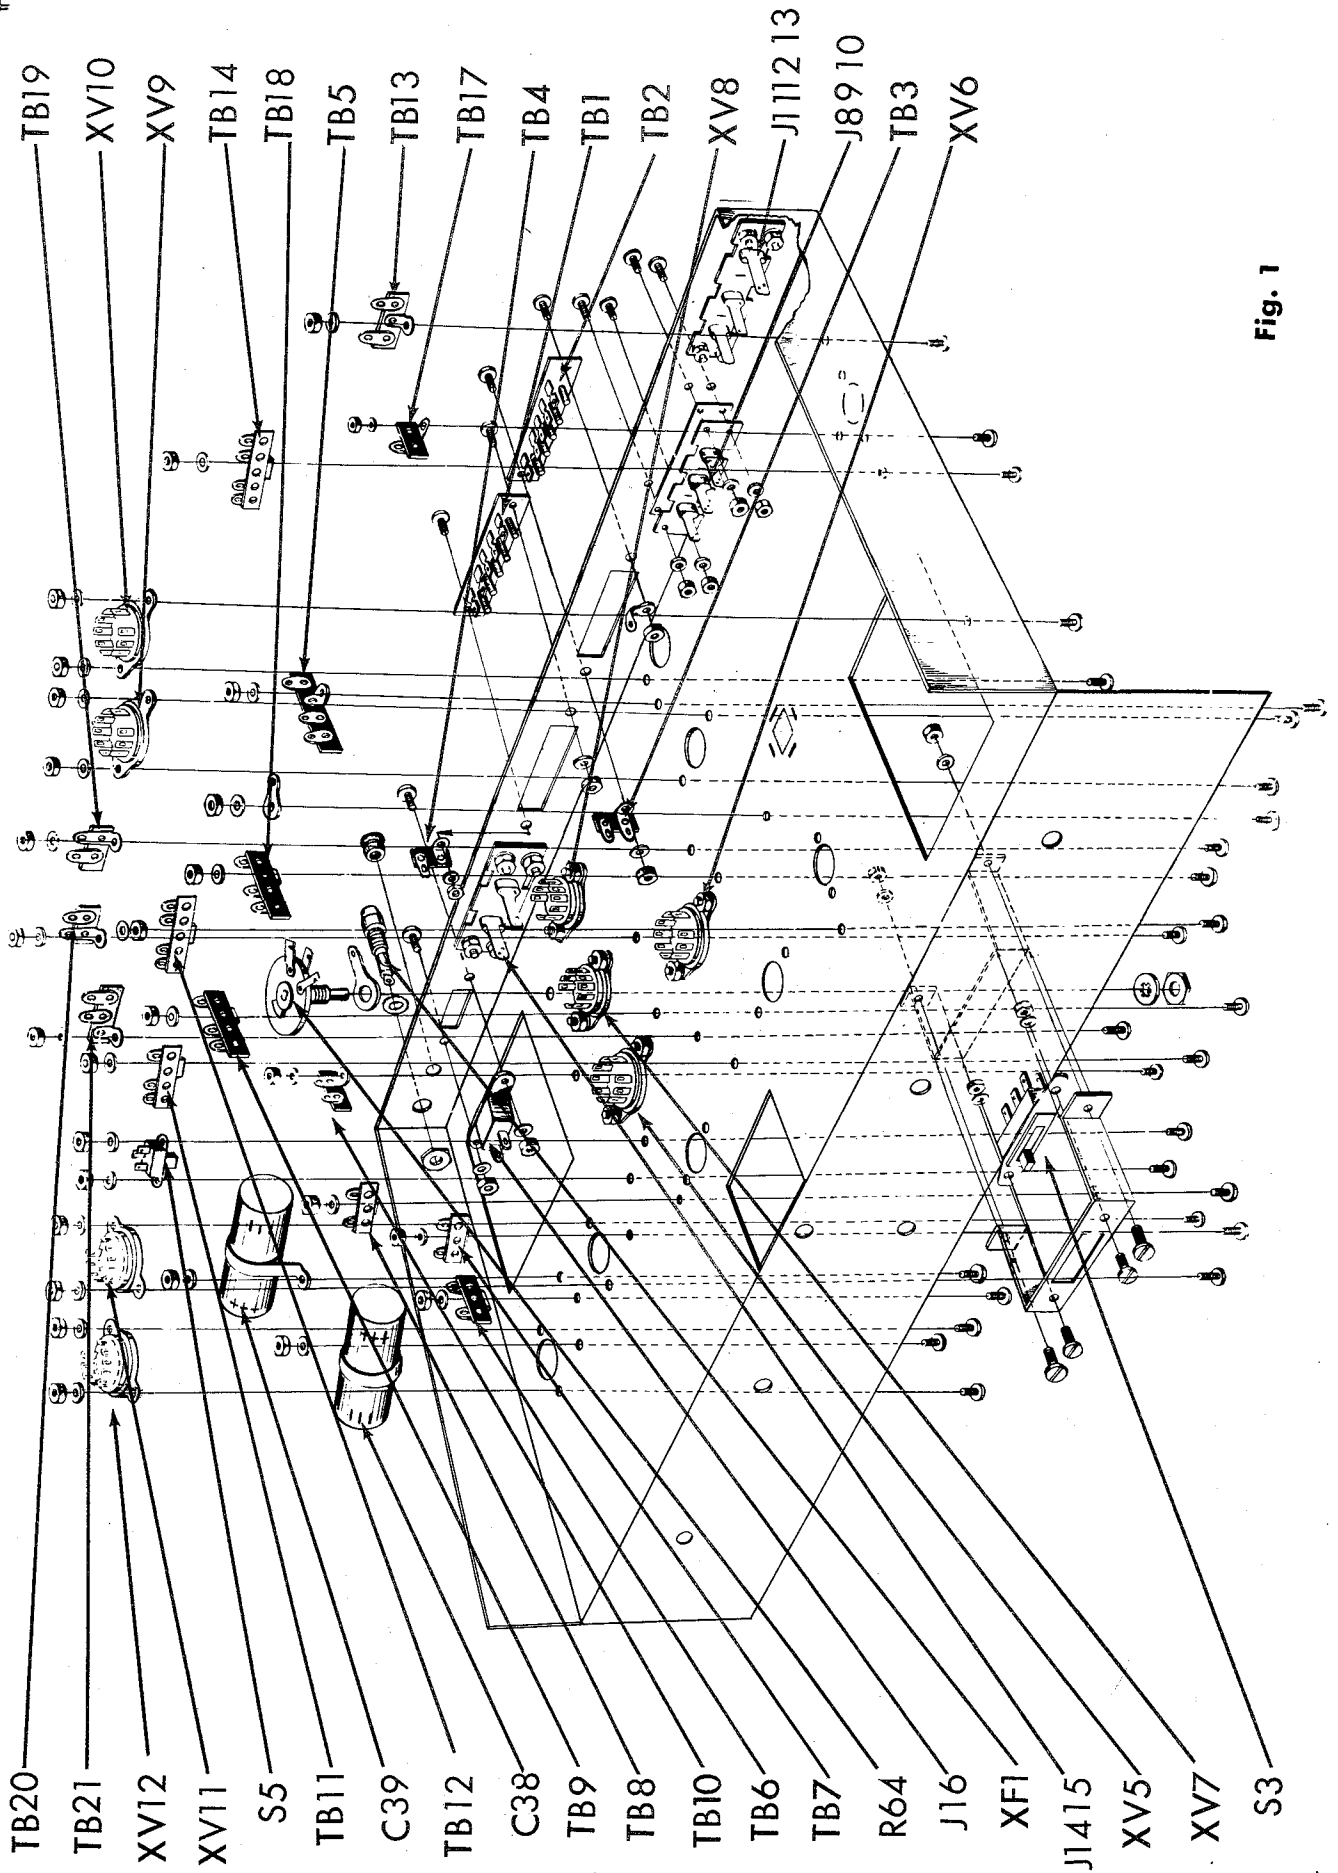
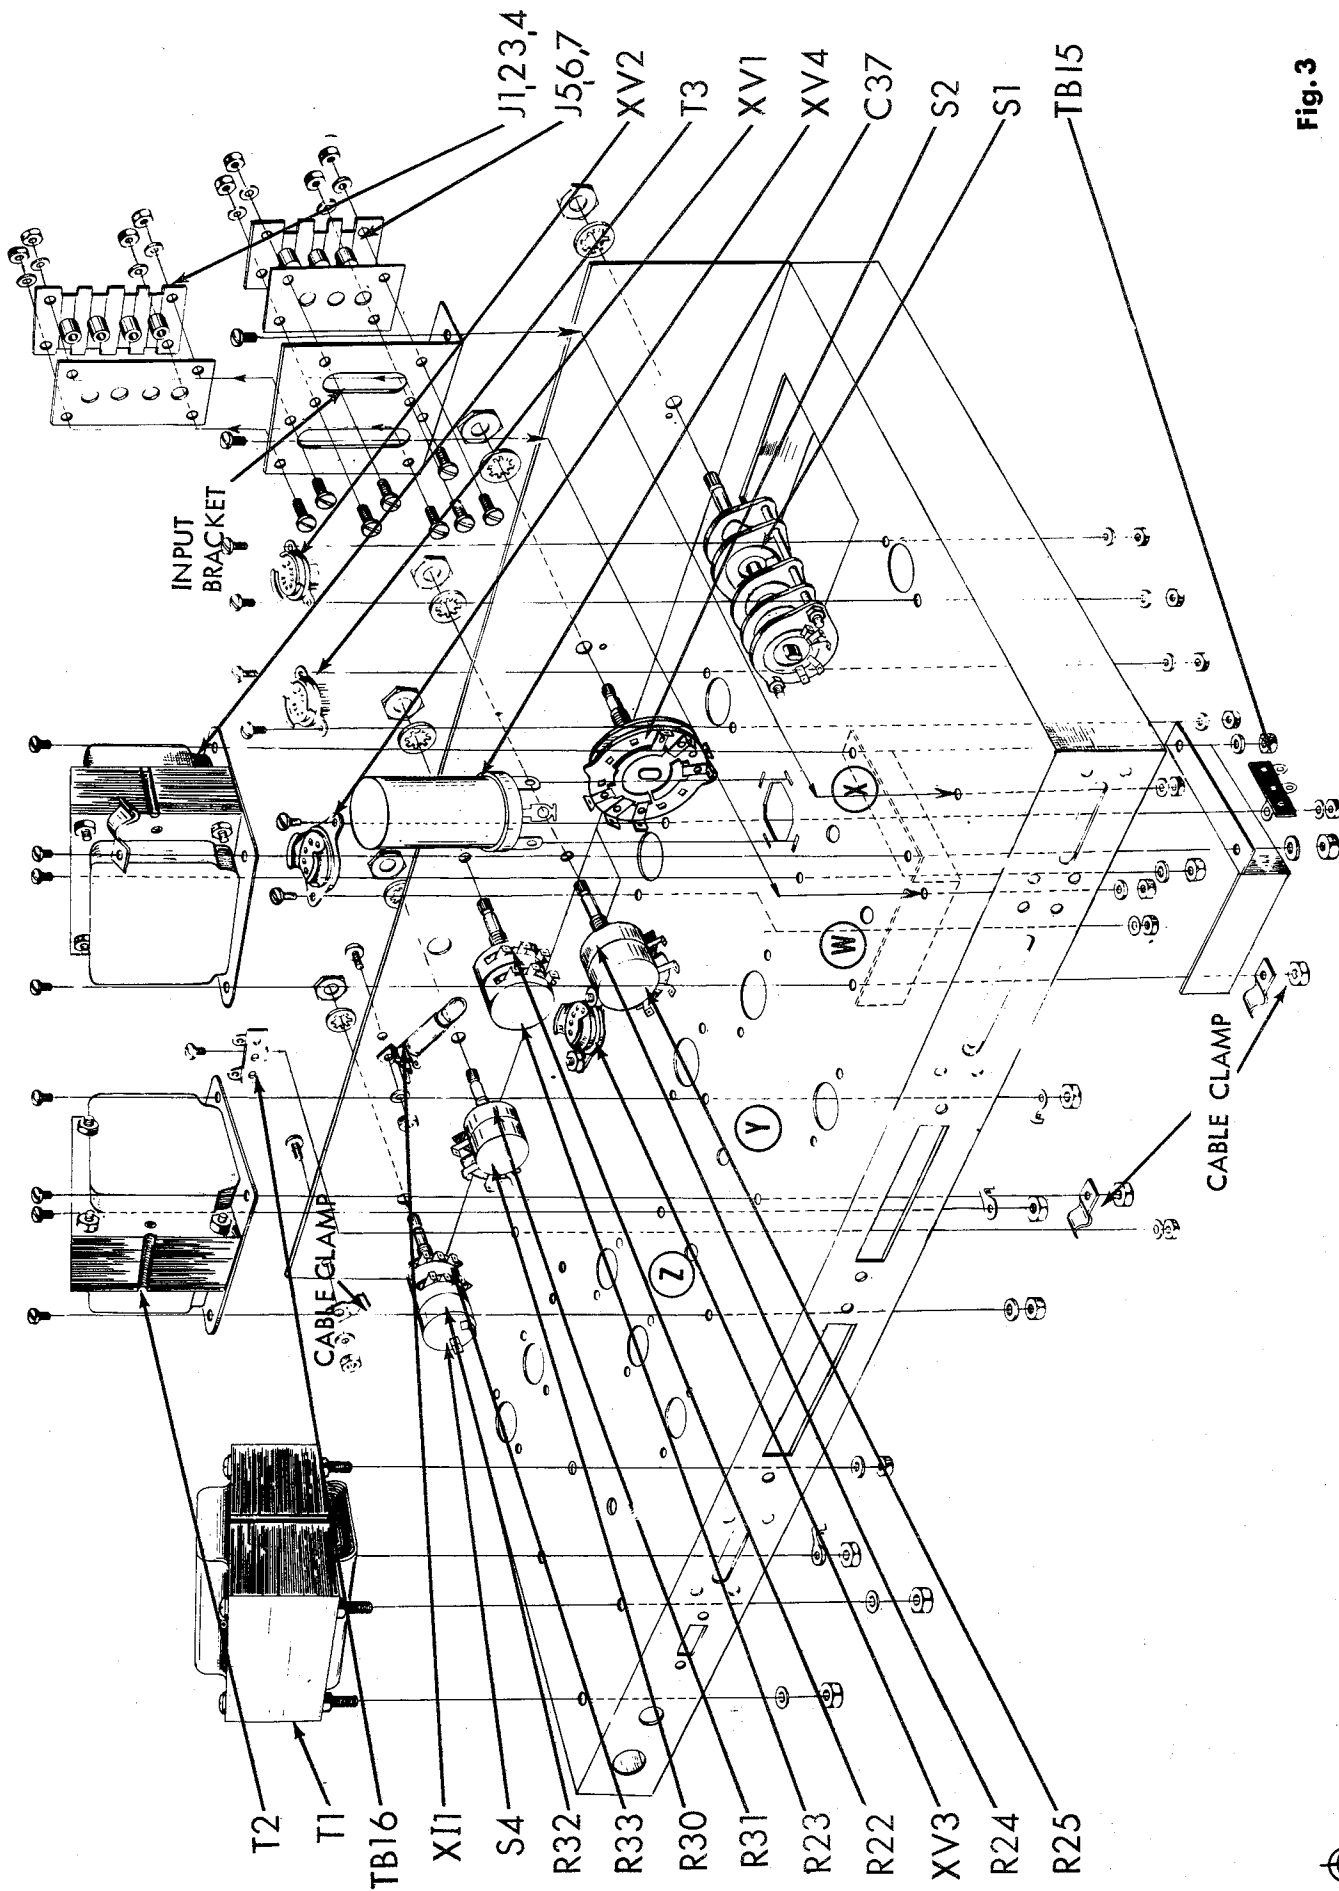
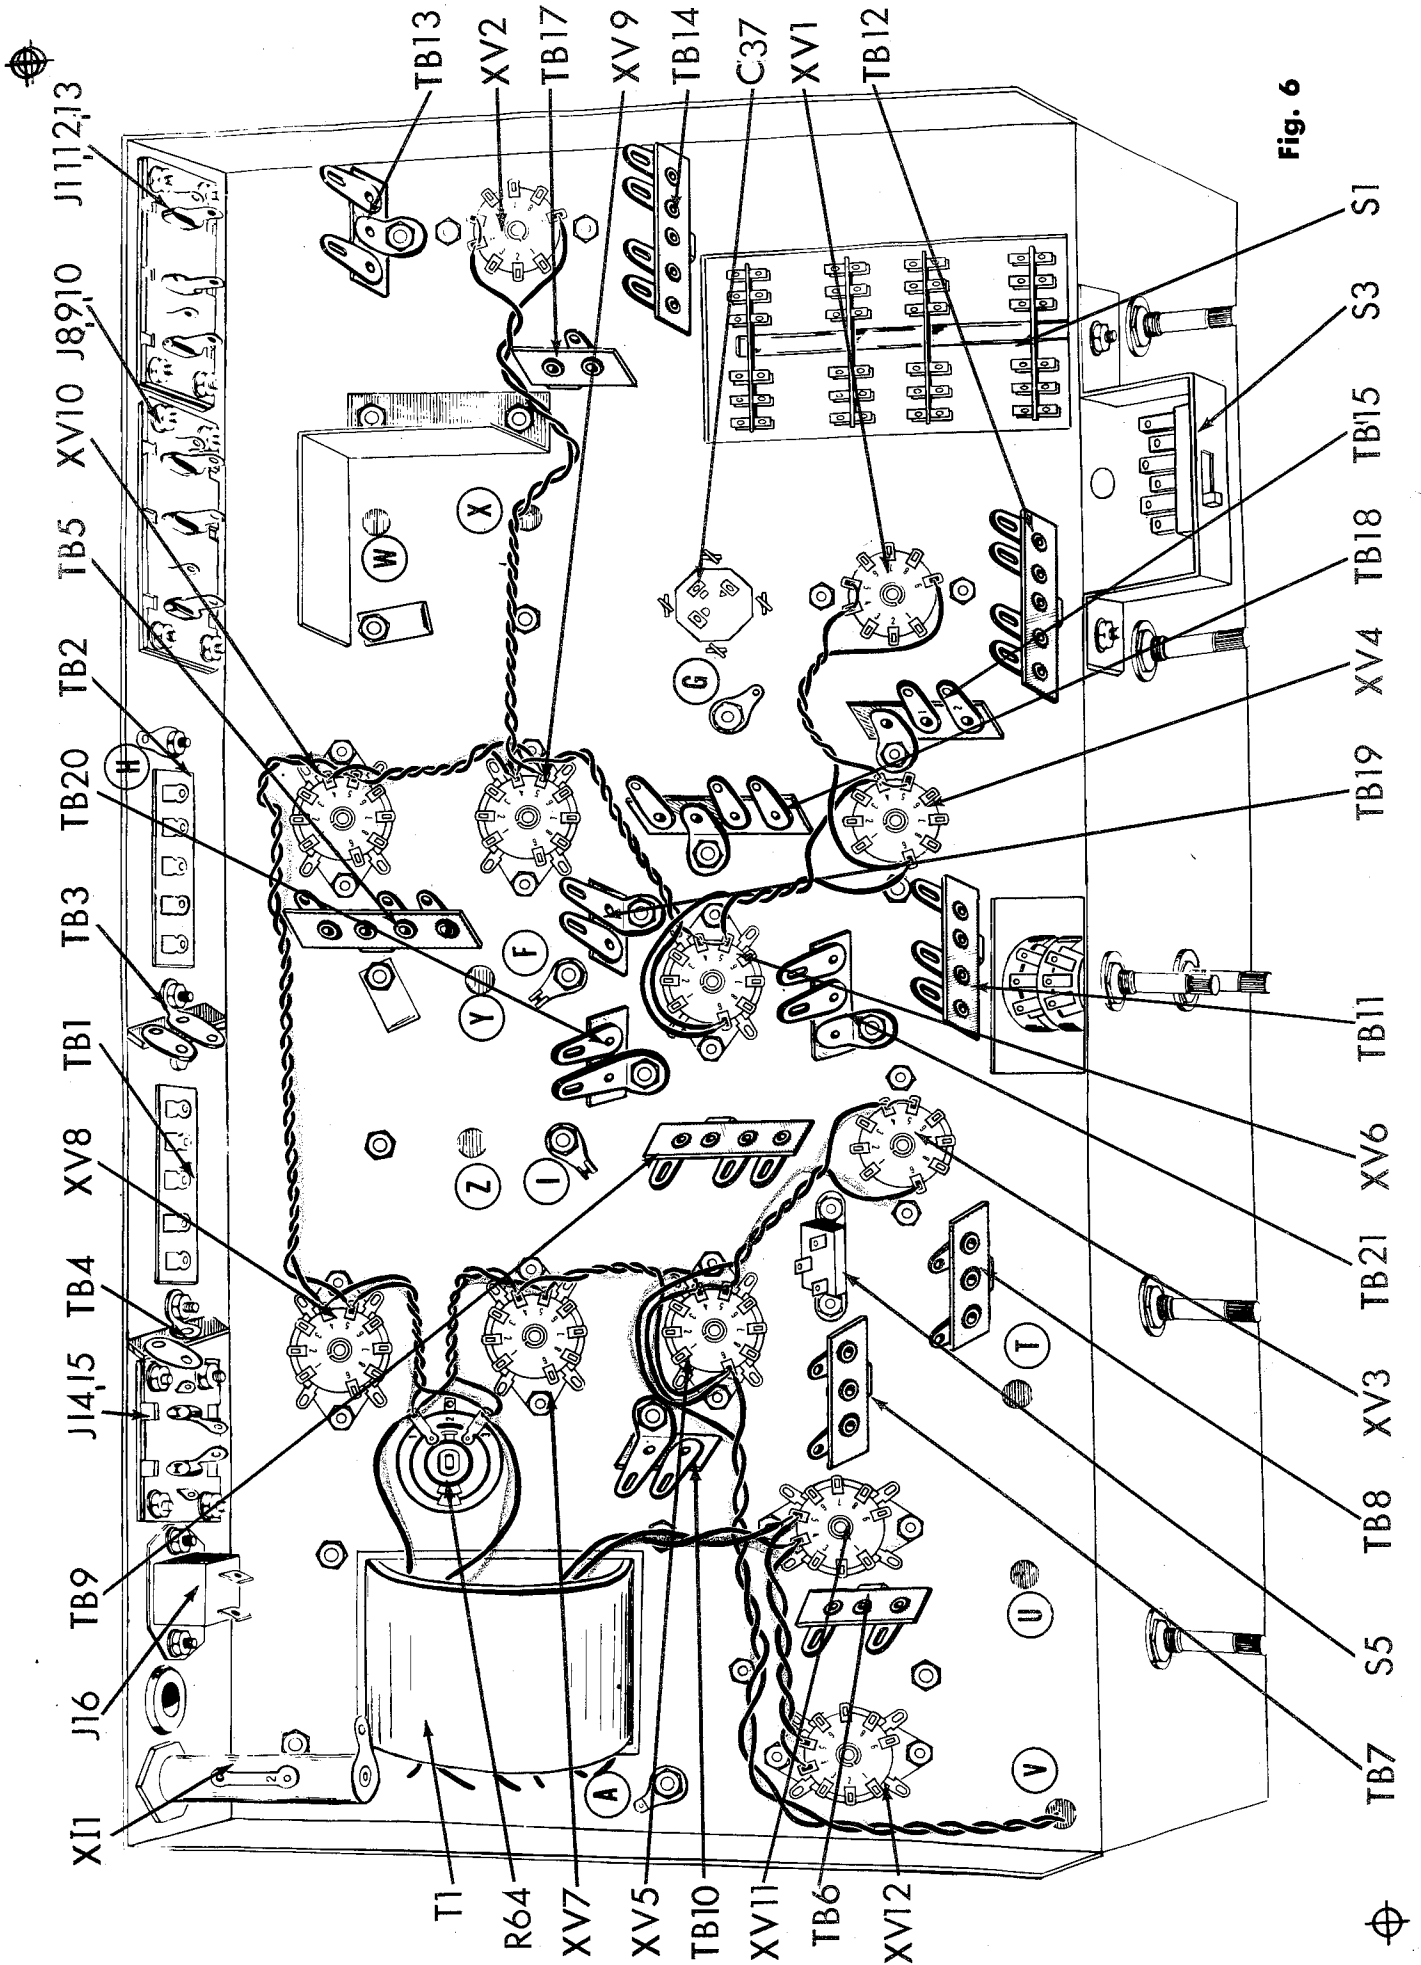

Fig. 1
Fig. 3
Fig. 6
Note: In addition to Fig. 1, it will be required to refer to Fig. 6 in the following mounting procedure in order to settle such matters as orientation of terminal boards, keyways on tube sockets, etc. The wiring which comes later will be greatly facilitated if, after mounting each part, the symbol number of the part is written on the bottom of the chassis next to the part with a crayon or soft pencil.
1. (✓) Fig. 1. Mount the 9 pin miniature tube socket, XV12, as shown. Use two #4-40 screws, two #4 lockwashers, and two #4-40 hex nuts. Note the mounting direction in figure 6.
2. (✓) Fig. 1. Similar to the above, mount 9 pin miniature sockets, XV11, XV5, XV6, XV7, XV8, XV9 and XV10. Use two #4-40 screws, two #4 lockwashers, and two #4-40 hex nuts on each. In each case, note the mounting direction in figure 6.
3. (✓) Fig. 1. Mount the 3 terminal input jack strip, J8, 9, 10 as shown. Use four #6-32-screws, four #6 lockwashers and four #6-32 hex nuts. Mount the 3 hole insulator between the chassis and the input jack strip. (Fig. 10).
4. (✓) Fig. 1. Mount the 3 terminal input jack strip, J11, 12, 13, as shown. Note mounting direction in figure 10 Use four #6-32 screws, four #6 lockwashers and four #6-32 hex nuts. Mount a 3 hole insulator between the chassis and the input jack strip. (Fig. 10)
5. (✓) Fig. 1. Mount the double pole 2 position slide switch, S3, into the switch bracket, as shown. Use two #4-40 screws, two #4 lockwashers and two #4-40 hex nuts.
6. (✓) Fig. 1. Mount the switch bracket with the switch (previously mounted in step 5) on the chassis, as shown. Use two #6-32 screws, two #6 lockwashers and two #6-32 hex nuts.
7. (✓) Fig. 1. Mount the 2 terminal tape output jack strip, J14, 15, as shown. Use four #6-32 screws, four #6 lockwashers and four #6-32 hex nuts.. Mount a 2 hole insulator between the chassis and the jack strip.
8. (✓) Fig. 1. Mount the 5 screw terminal board, TB1, as shown. Use two #6-32 screws, two #6 lockwashers and two #6-32 hex nuts. Under one of the lockwashers, mount one post right terminal strip, TB4.
9. (✓) Fig. 1. Mount the 5 screw terminal board, TB2, as shown. Use two #6-32 screws, two #6 lockwashers and two #6-32 hex nuts. Under the lockwasher, mount one post right with ground terminal strip, TB3. Under the remaining nut, mount a #6 ground lug.
10. (✓) Fig. 1. Mount the fuseholder, XF1, as shown. Use rubber washer against the outside of the chassis under the wider part of the holder. Slide the large nut over the fuseholder on the inside of the chassis. DO NOT tighten nut.
11. (✓) Fig. 1. Push a rubber grommet into the 3/8" hole next to the fuseholder.
12. (✓) Fig. 1. Mount the convenience outlet, J16, as shown. Use two #6-32 screws, two #6 lockwasher and two #6-32 hex nuts.
13. (✓) Fig. 1. Mount the 30mfd, 400V electrolytic capacitor, C38, as shown. Use one #6-32 screw, one #6 lockwasher and one #6-32 hex nut. Note direction of positive side.
14. (✓) Fig. 1. Mount the 30mfd, 400V electrolytic capacitor, C39, as shown. Use one #6-32 screw, one #6 lockwasher and one #6-32 hex nut. Note direction of positive side. (It is the reverse of C38 in step 13 above.)
15. (✓) Fig. 1. Mount hum bucking potentiometer, R64, as shown. Use one 3/8" lockwasher and one 3/8 hex nut. Between the potentiometer and the chassis, use one 3/8 pot grounding lug. When tightening potentiometer, line up the lug with terminal #2. The grounding lug will eventually be soldered to this terminal.
16. (✓) Fig. 1. Mount the following terminal strips as shown. Use one #6-32 screw, one #6 lockwasher and one #6-32 hex nut on each. The terminal strips to be mounted in this manner are: three post, two left, TB5; two post, TB6; two post, TB7; two post, TB8; three post, two right, TB9; one post. left with ground, TB10; three post, two right, TB11; four post, TB12; two post, TB13; four post, TB14; one post left, TB17; three post, two right, TB18; one post left with ground, TB19; one post right with ground, TB20, and two post right, TB21.
17. (✓) Fig. 1. Mount the single pole 2 position slide switch, S5, as shown. Use two #4-40 screws, two #4 lockwashers and two #4-40 hex nuts.
18. (✓) Fig. 1. Mount the #6 ground lug "G" with one #6-32 screw, one #6 lockwasher and one #6-32 hex nut. Note position of lug on figure 6.
1. (✓) Fig. 3. Mount the 9 pin miniature tube socket with shield support, XV2, from the top of the chassis. Use two #4-40 screws, two #4 lockwashers, and two #4-40 hex nuts. Note mounting direction in figure 6.
2. () Fig. 3. Similar to the above, mount the 9 pin miniature tube socket with shield support, XV1 and XV3, from the top of the chassis. Use two #4-40 screws, two #4 lockwashers and two #4-40 hex nuts on each. Note mounting direction figure 6.
3. () Fig. 3. Similar to the above, mount the 9 pin miniature tube socket with shield support, XV4, from the top of the chassis. Use two #4-40 screws, two #4 lockwashers and two #4-40 hex nuts. Note mounting direction in figure 6.
4. (✓) Fig. 3. Mount the dual concentric treble control potentiometer with on-off switch, R32, R33, S4, as shown. Slide the locating lug on the potentiometer into the small hole adjacent to the mounting hole. Use one 3/8 lockwasher and one 3/8 hex nut (stock # 18047).
5. (✓) Fig. 3. Mount the dual concentric bass control potentiometer, R30, as shown. Slide the locating lug on the potentiometer into the small hole adjacent to the mounting hole. Use one 3/8 lockwasher and one 3/8 hex nut. (stock # 18048)
6. () Fig. 3. Mount the dual 250KΩ level control potentiometer, R24, R25, as shown. Slide the locating lug on the potentiometer into the small hole adjacent to the mounting hole. Use one 3/8 lockwasher and one 3/8 hex nut. (stock # 18046)
7. (✓) Fig. 3. Mount the dual 750KΩ focus control potentiometer, R22, R23 into the small hole adjacent to the mounting hole. Use one 3/8 lockwasher and one 3/8 hex nut (stock # 18045).
8. () Fig. 3. Mount the function selector switch, S2, as shown. Slide the locating lug on the switch into the small hole adjacent to the mounting hole. Use one 3/8 lockwasher and one 3/8 hex nut.
9. () Fig. 3. Mount the input selector switch, S1, as shown. Slide the locating lug on the switch into the small hole adjacent to the mounting hole. Use one 3/8 lockwasher and one 3/8 hex nut.
10. (✓) Fig. 3. Mount the two post terminal strip, TB16, as shown. Use one #6-32 screw, one #6 lockwasher and one #6-32 hex nut.
11. (✓) Fig. 3. On the power transformer, T1, cut both green leads, the red-yellow lead and the white lead to 2 1/2"; both yellow leads to 3 1/2"; both red leads and both black leads to 5 1/2". Mount the power transformer as shown. Position so that the green and yellow leads face the center of the chassis (see figure 6). Use three #8 lockwashers and three #8-32 hex nuts on three of the screws. On the fourth screw, use one #8 grounding lug and one #8-32 hex nut.